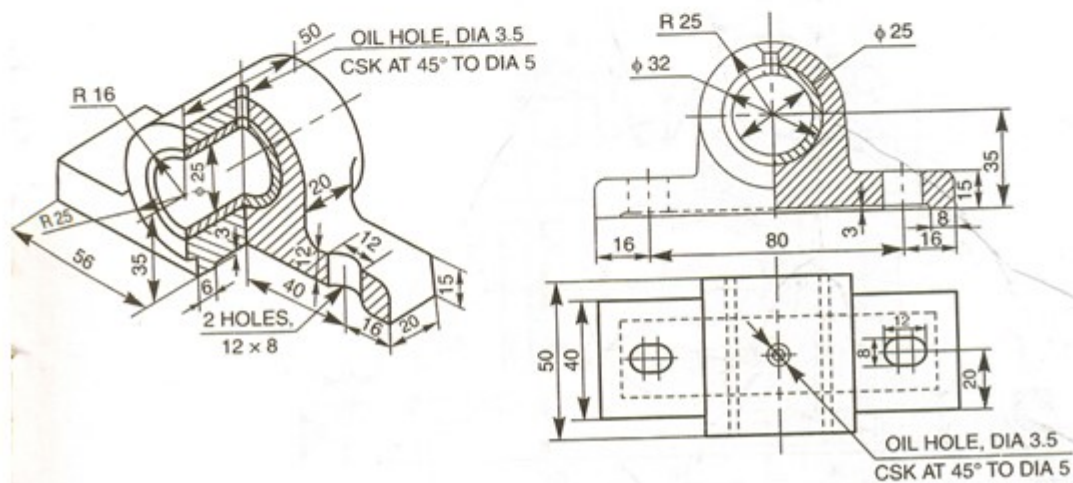

Fig.13.1.2 Bushed bearing
- Bushed bearing is a somewhat modified version of solid bearing, consisting mainly two parts, the body and the bush [fig.13.1.2].